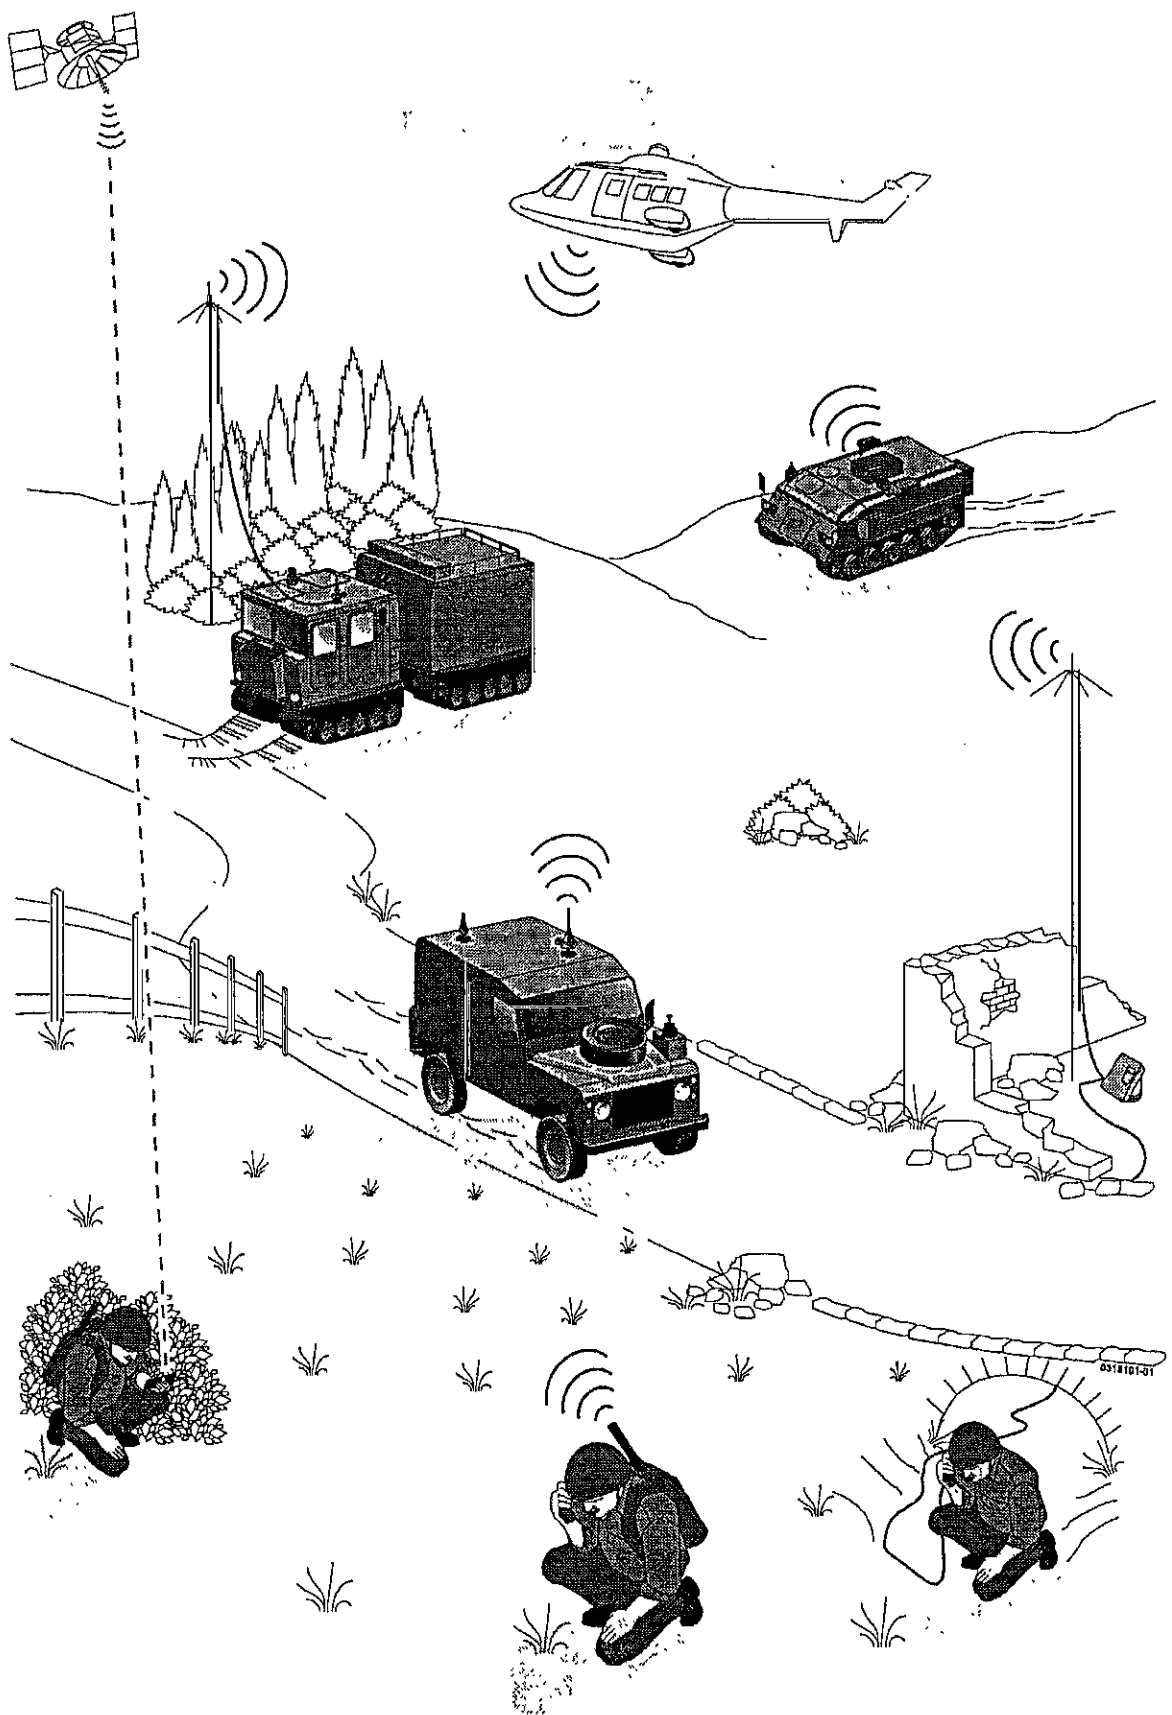

Fig 1 The TacGA communications system
1 The TacGA communications system is a versatile, portable multi-band radio system for tactical ground-to-air-to-ground use, as illustrated in Fig 1. The system provides voice and data communications, and may be operated in either a normal V/UHF multi-band fixed frequency mode or in a UHF frequency-agile anti-jam (AJ) mode designated HAVE QUICK. The system also provides facilities for global positioning system (GPS) and emergency beacon operation.